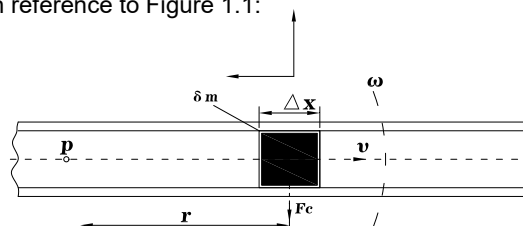

Figure 1-1
If a pipe is rotated around a point (P) while liquid is flowing through it (toward or away from the center of rotation), that fluid will generate an inertial force, with reference to Figure 1.1:
The force generated by tangential acceleration is Coriolis force, its value is equal to  $F_c = 2wv\delta_m$ . In figure 1.1 fluid  $\delta_m = \rho A \times \Delta X$ , So Coriolis force can be expressed as: